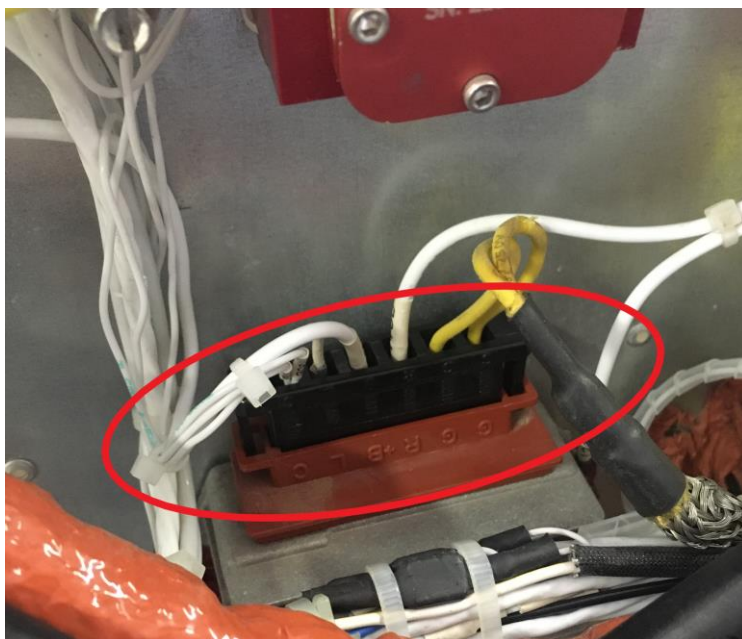

Fig. 29: Terminal block
27) Put the terminal block back in its place (See Fig. 29)